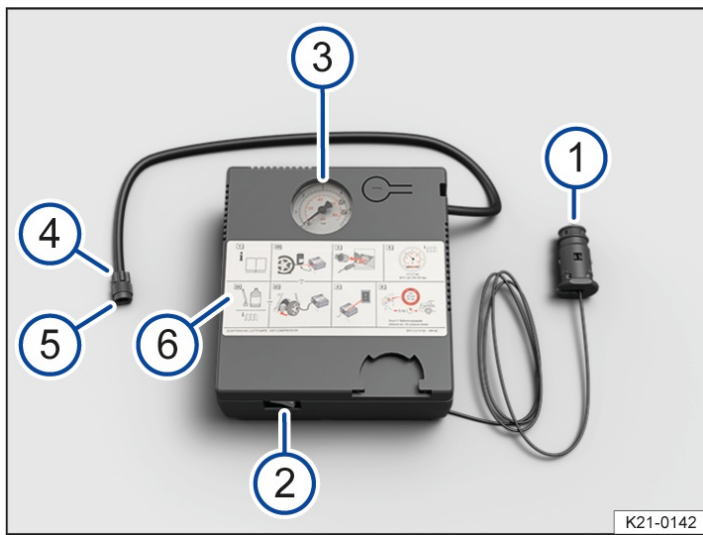

Fig. 2 Compressor in the breakdown set(illustration).
1. Screw the tyre filler hose → Fig. 2 ⑤ of the compressor tightly onto the tyre valve.
2. Make sure that the air bleed screw → Fig. 2 ④ is closed.
4. Insert the 12-volt plug → Fig. 2 ① into one of the vehicle's 12-volt sockets (→ Sockets).
5. Switch on the compressor with the ON/OFF switch → Fig. 2 ②.